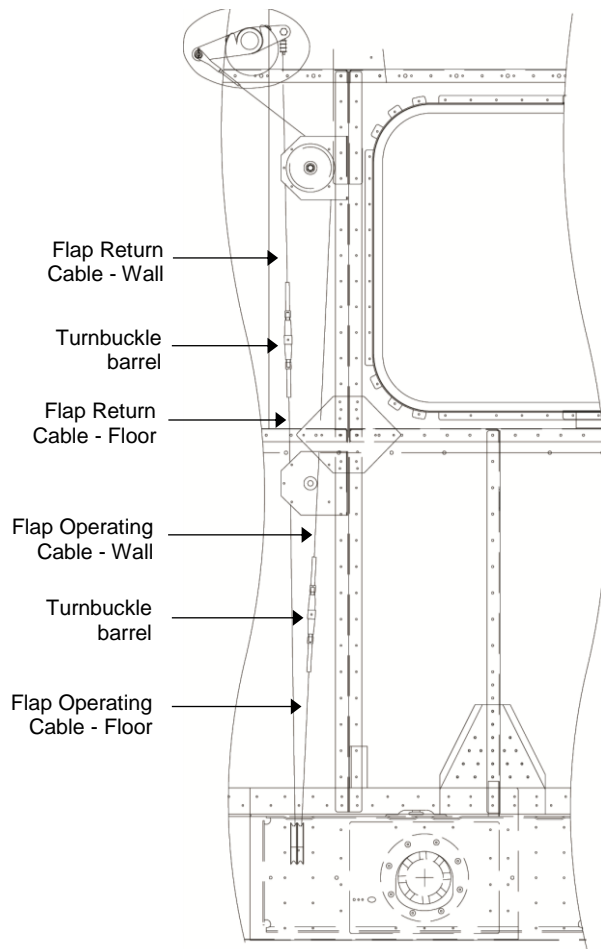

Figure 29: Flap Cable routing in LH Sidewall, RH similar
- 3) Loosen the Turnbuckle barrels for the Flap Cables in the side-wall structure (See Figure 29).